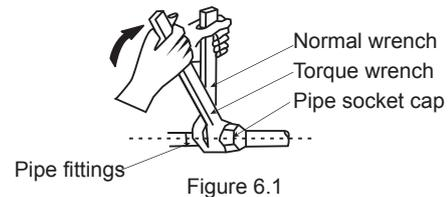

Figure 6.1
- Use two wrenches when you install or dismantle the piping, a common wrench and a torque wrench. See Figure 6.1.